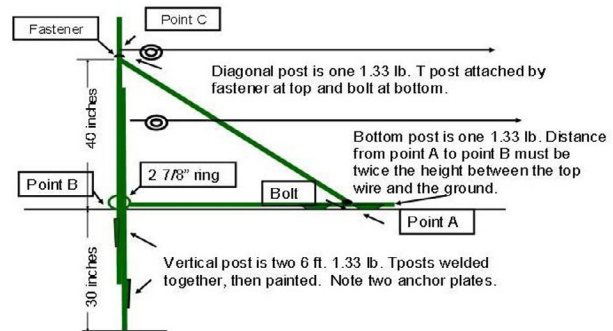

Figure 11: Steel T-Post Diagonal Corner Post For Temporary Electric Fence)
5. **For Temporary Electric Fence Only**, the Steel T-Post Diagonal Corner Post shown in Figure 11 can be used.